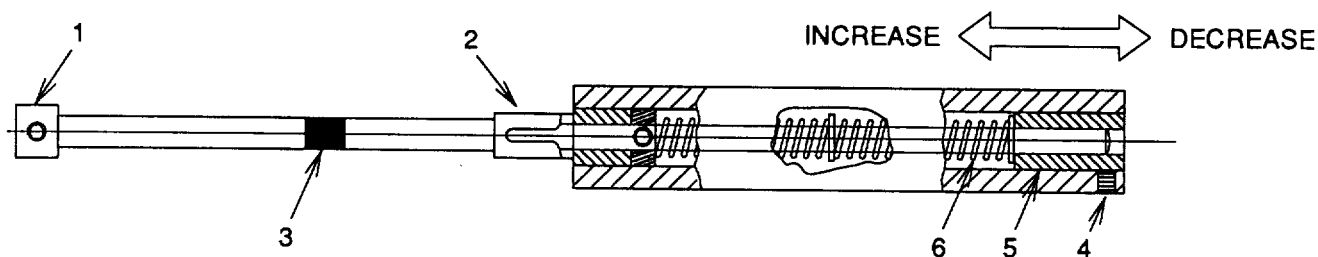

Figure 5-29. Tool Calibration
(1) Spring balance assembly. (See figure 5-29.)